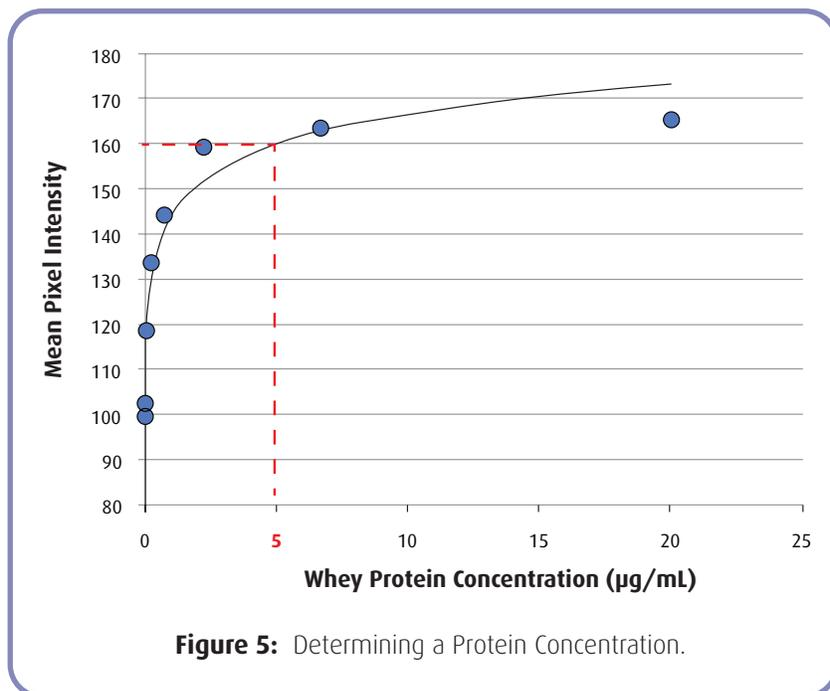

Figure 5: Determining a Protein Concentration.
- c. Use the equation of the best-fit line to solve for x given the y value. Alternatively, extend a horizontal line from the absorbance value of the sample (y-axis) to the standard curve and read the corresponding concentration (x-axis). See Figure 5.